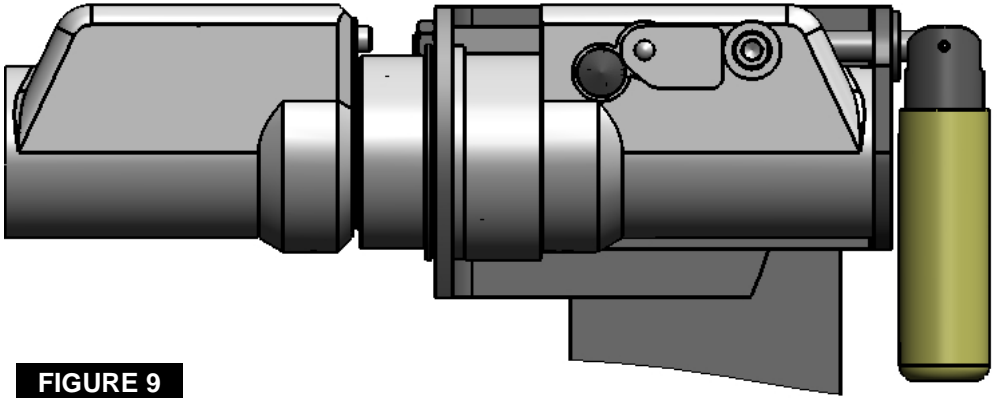

FIGURE 9
4. Once the male half is fully engaged, return the handle to the horizontal position to lock the coupler halves together. Pull the Male Half to make sure the latch is engaged. Rotate the bracket handle 5-6 turns counter clockwise so that it is no longer in contact with bracket and let it hang freely as shown in figure 9. This is the normal operating position and will ensure the coupler will not disengage accidentally.